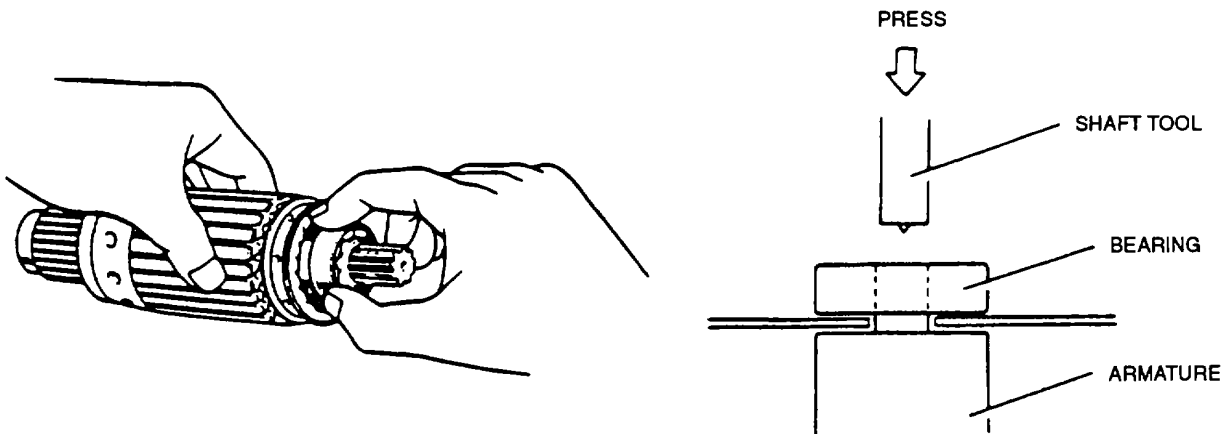

FIGURE 3-29. Inspecting and Replacing Bearings
- e. Inspect bearings (34 and 35, FIGURE 3-15) for wear and damage. If damaged or worn replace bearings using a press, refer to FIGURE 3-29.